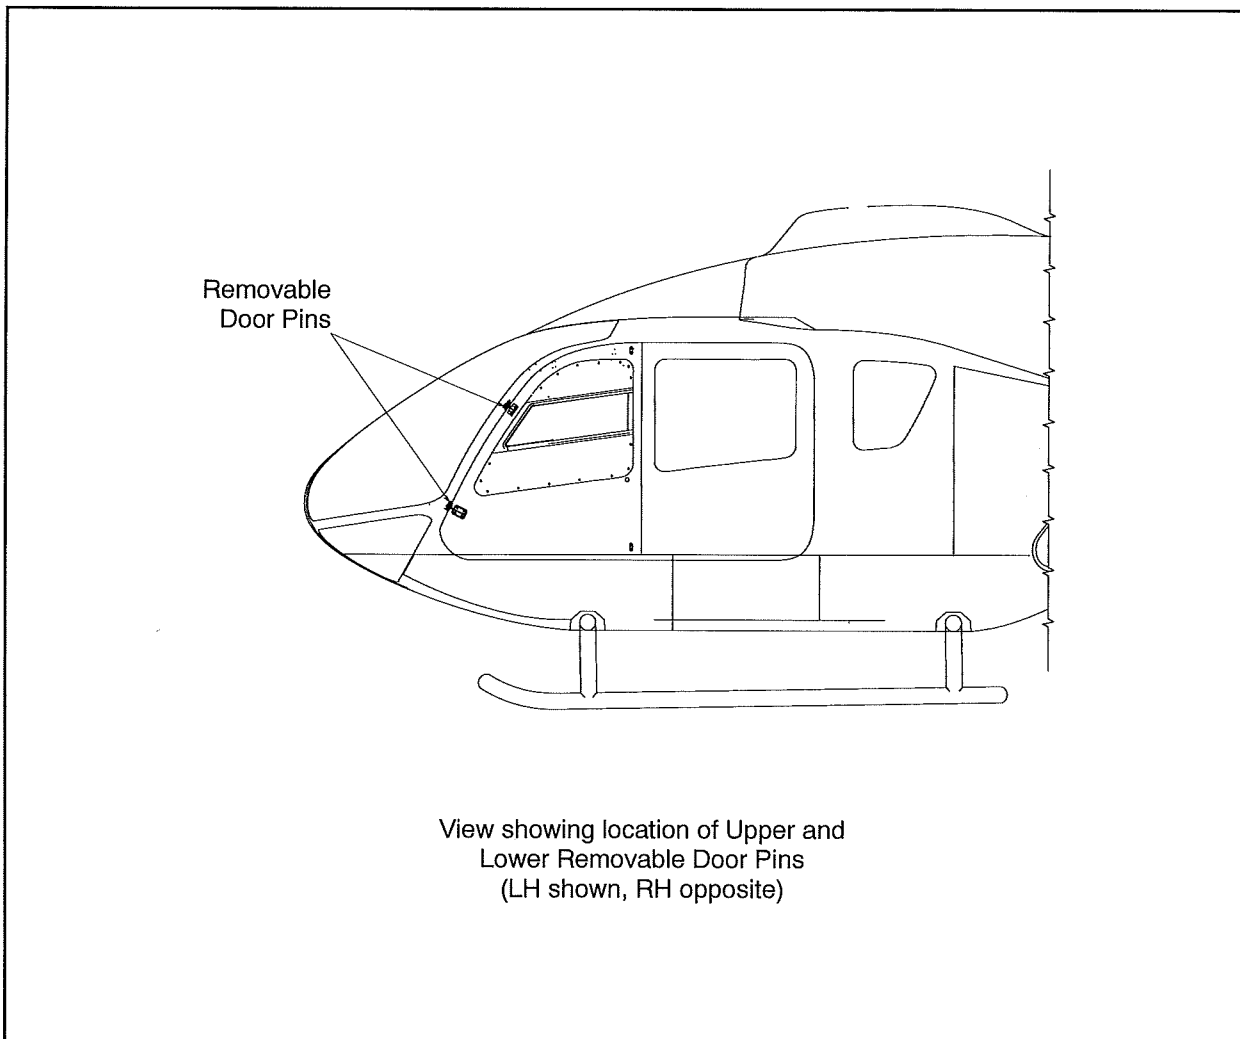

Figure 1 General Layout
- A. Removable Door Pins are utilized on the LH or RH or both doors to provide a "tool free" means to remove and reinstall the hinged doors. Pip pins replace the existing bolts and a spacer clip fits over the existing lower door fitting to replace the existing washers that are no longer used. Safety pins slide through holes in the bottom of the pip pins providing additional security. A Lanyard attached to each pip pin prevents the safety pin from being misplaced. Refer to General Layout, Figure 1.